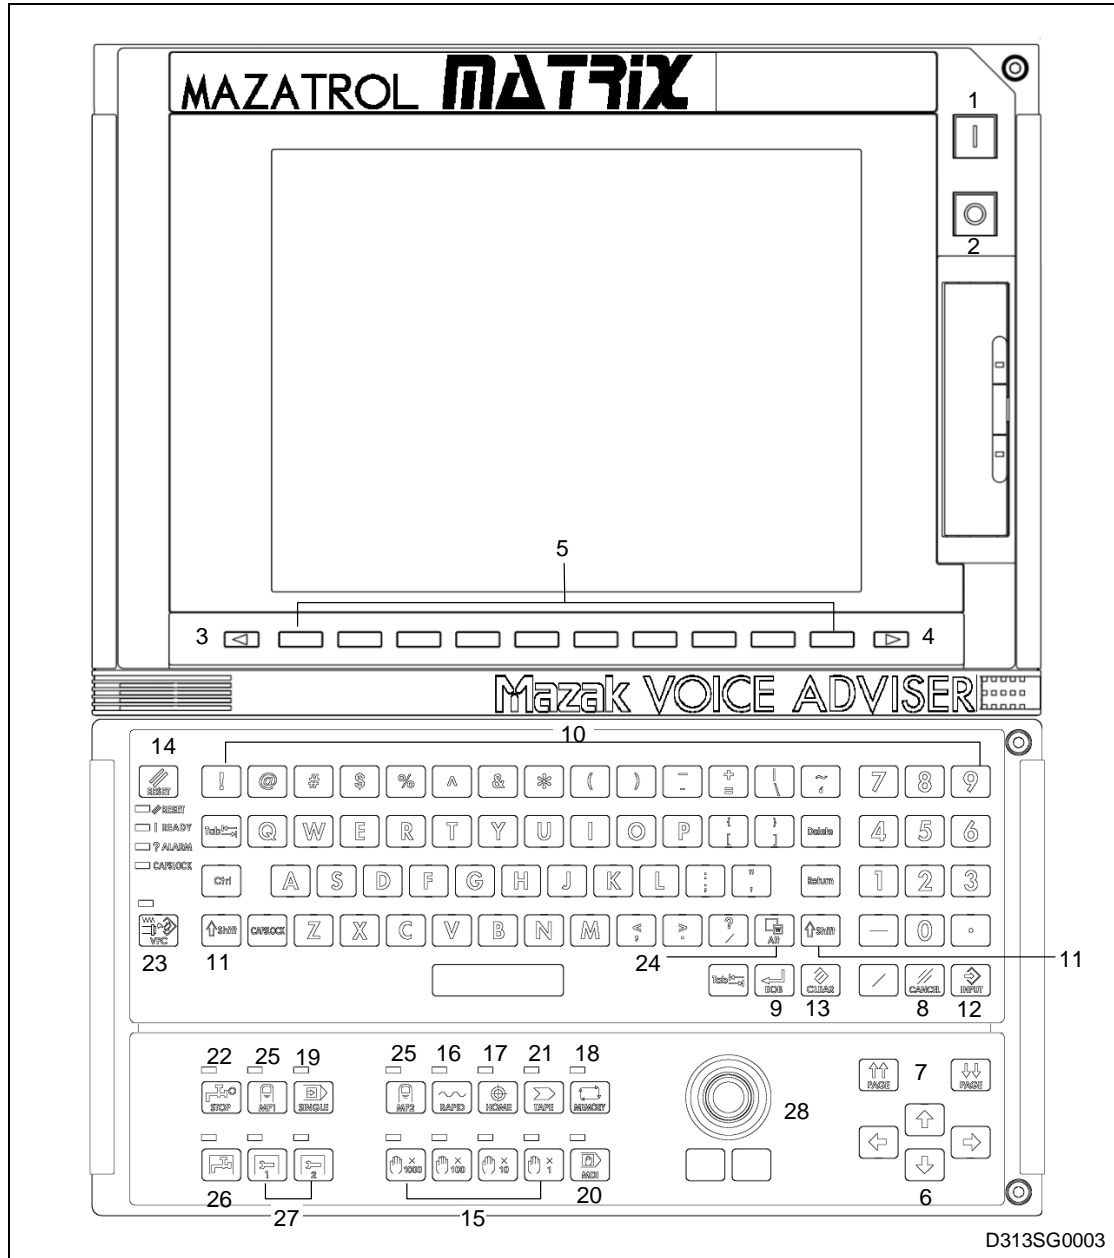

Fig. 6-1 Operating panel
* The numbers in Table 6-1 correspond to those in Fig. 6-1.